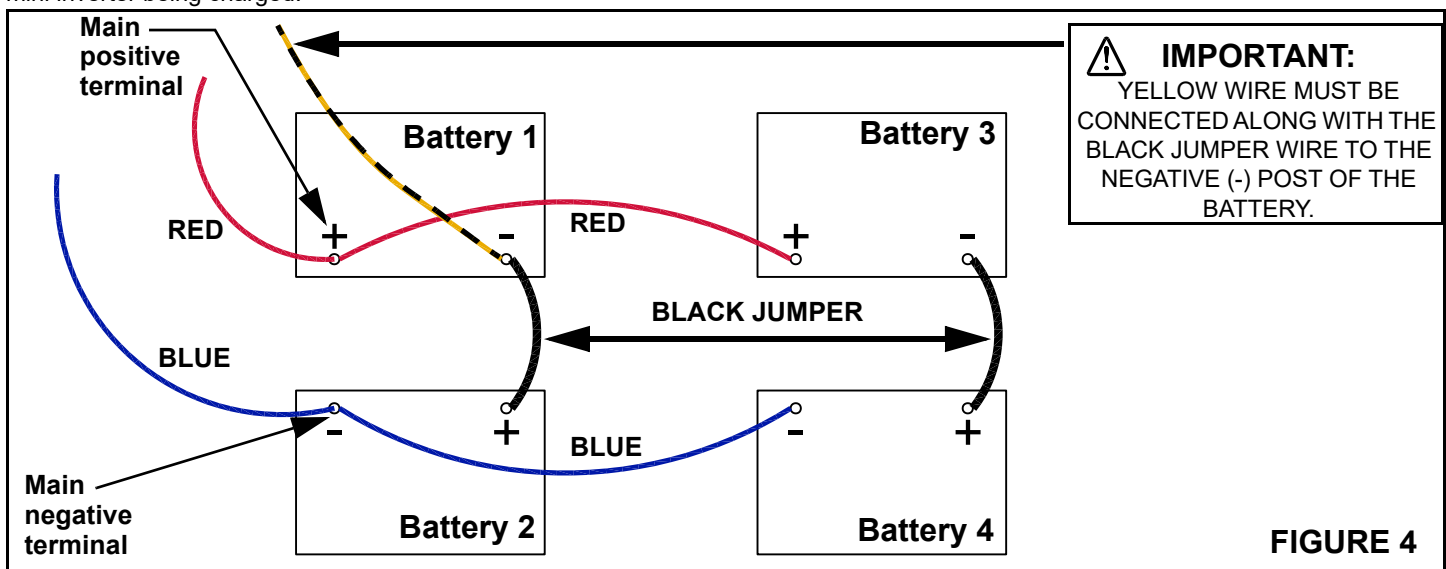

FIGURE 4
## STEP 5: CONNECT BATTERIES (SEE FIGURE 4)
- i. Tighten all bolts to a torque of **78 lbf-in ± 4 lbf-in** (figure 4).